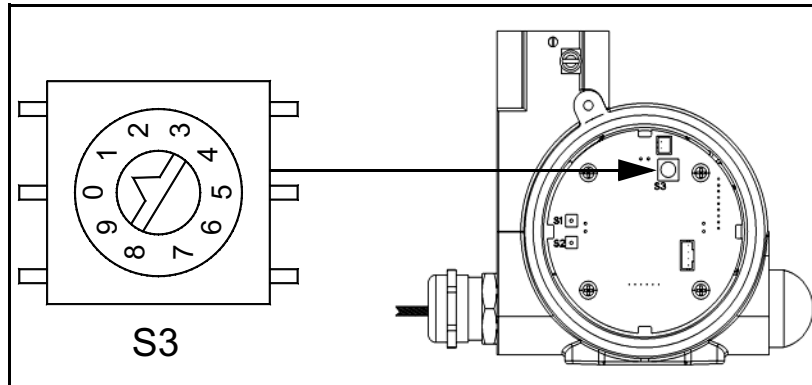

Figure 11: Switch S3 Location
1. Remove the cover opposite to the wiring compartment to access *Switch S3* (see *Figure 11* below).